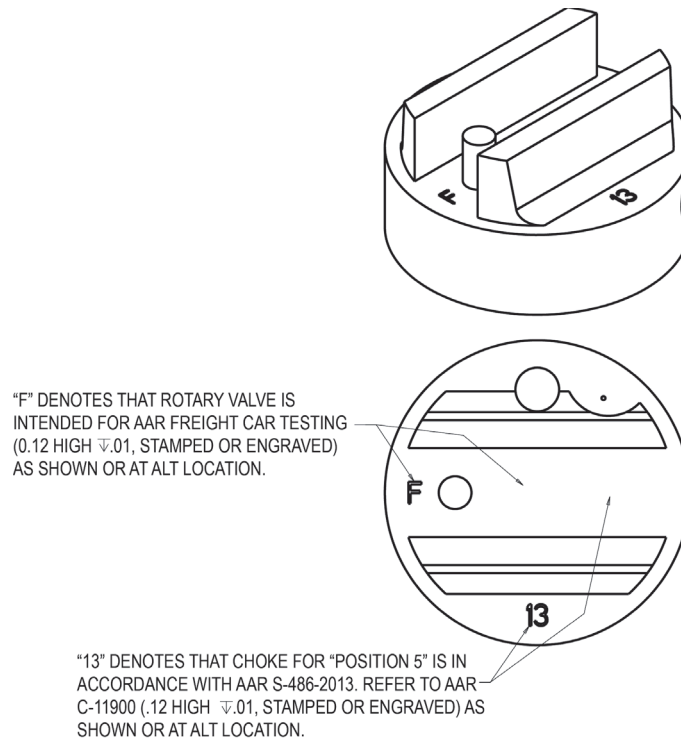

Fig. 5.1 Rotary valve date stamp details
3. Confirm that the rotary has been modified with the diameters detailed in paragraph 2.0 and that the rotary is stamped with the number "13" per Fig. 5.1.